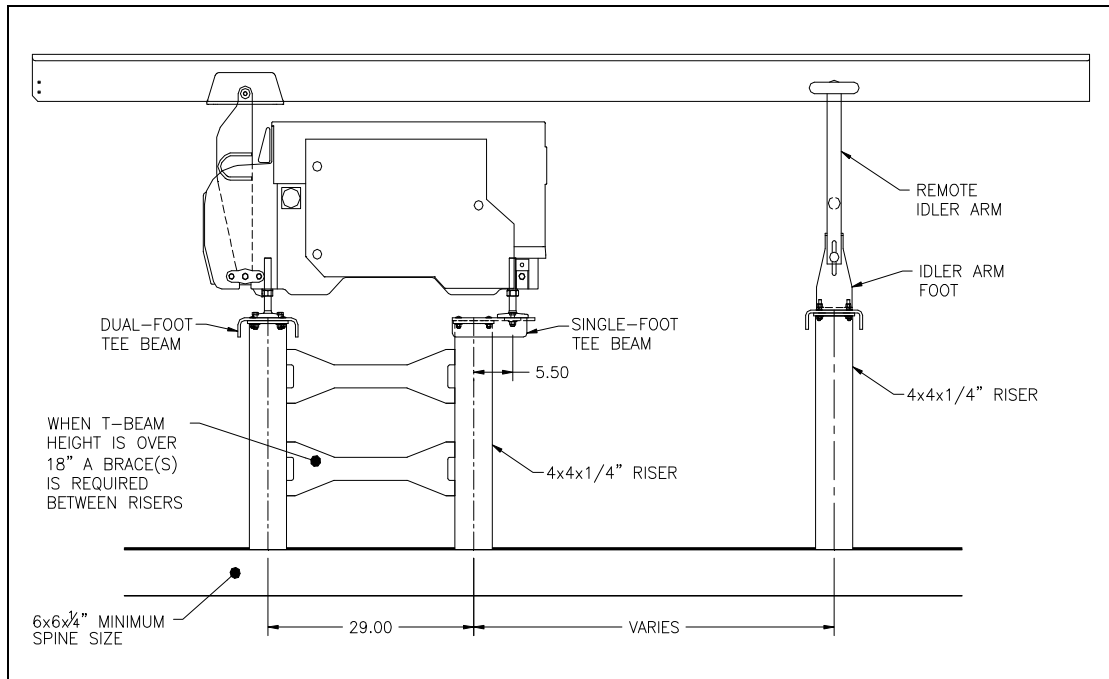

Figure 3-6 – Use of T-Pedestals to support a FastBack drive with remote idler arms
- When T-Pedestals are used to elevate the conveyor and the T-Pedestal height is over 18 inches [457.2 mm], a brace is required between the risers. Figure 3-6 shows the proper placement of a T-Pedestal assembly for a FastBack 260E-G2 drive unit with a remote idler arm.